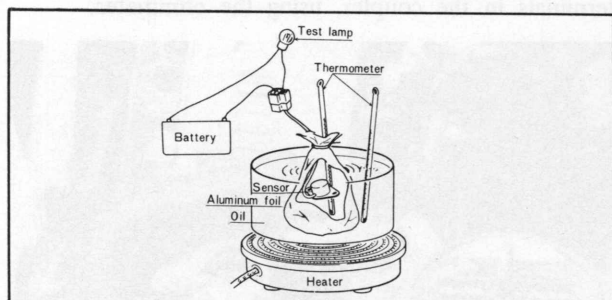

Fig. 1A-40 Checking sensor
3. Attach the test lamp to the sensor as shown in Fig. 1A-40.